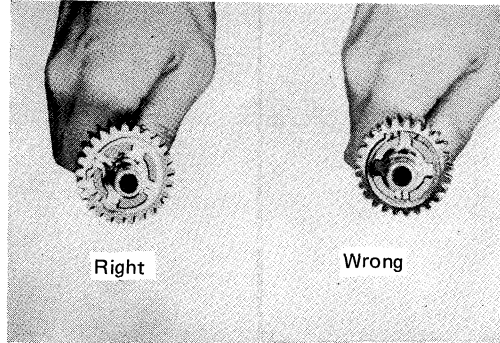

Fig. 5-5-8
B. Install the fourth pinion circlip so that its open ends are off of the crossed groove cut in the fourth pinion, or the fourth pinion positioning pieces may slip out of the groove while running. (Fig. 5-5-8)